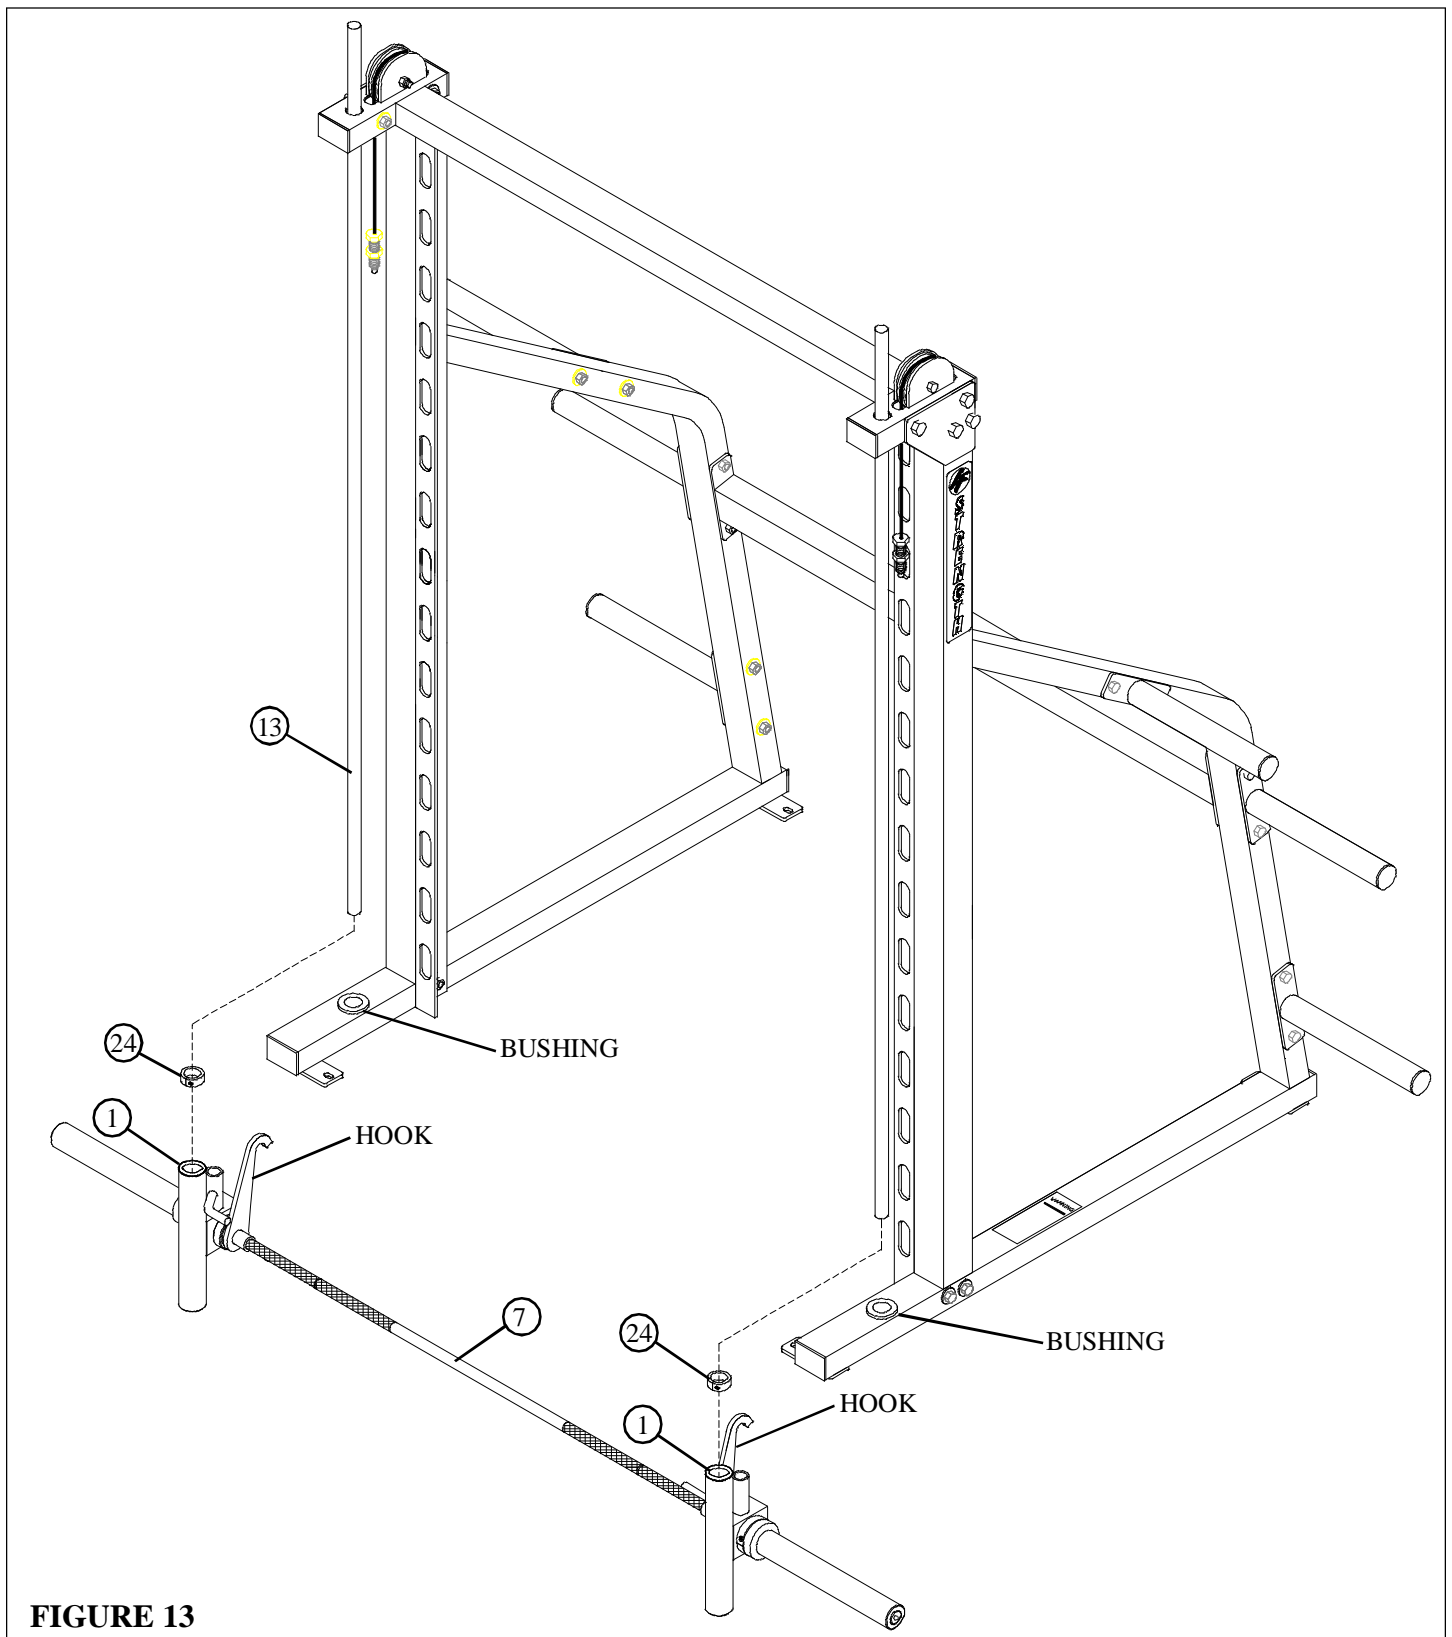

FIGURE 13
- Lift up each GUIDE ROD (13) and slide one 1" SHAFT COLLAR (24) over the bottom of each GUIDE ROD (13). Position 1" SHAFT COLLAR (24) half way up the GUIDE ROD (13) and tighten it using a 3/16" Allen wrench. See FIGURE 13.
- Lift up each GUIDE ROD (13) and insert them through each BEARING HOUSING (1) on the SMITH BAR ASSEMBLY (7) then seat GUIDE RODS (13) back into the BUSHINGS in the BASE of the UPRIGHTS (9 & 10). See FIGURE 13.
- Lift up on the SMITH BAR ASSEMBLY (7) and lock the HOOKS of the SMITH BAR ASSEMBLY (7) onto the CHROME ANGLES (12). See FIGURE 13.